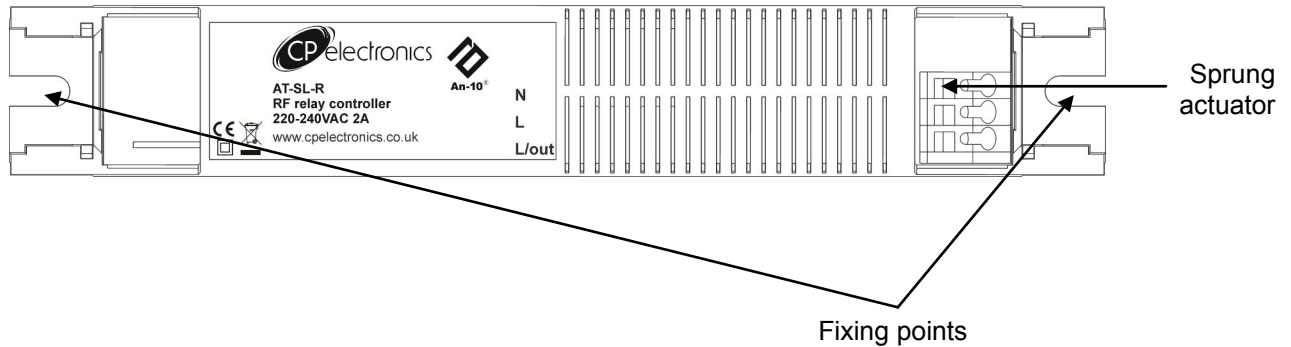

Fig 4: AT-SL-R mounting
- Affix the AT-SL-R to the inside of a luminaire using M4 screws as shown in the diagram below (Fig. 4).